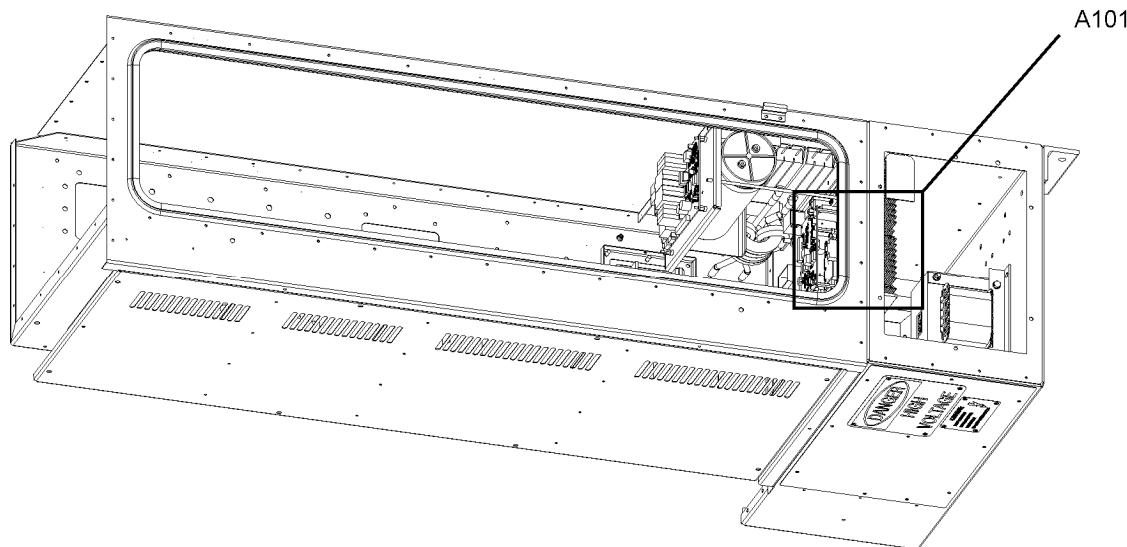

Figure 5-2: Location of A101
4. Locate A101. See Figure 5-2 for the location of A101. A101 is mounted in the Air Intake chamber of the APS.